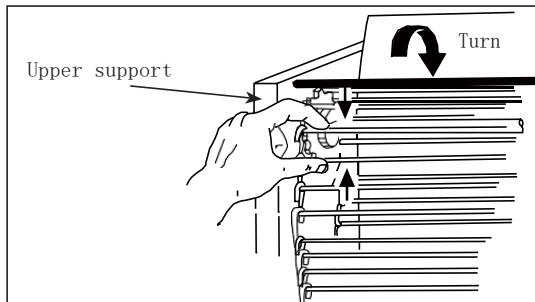

Figure6
- 2、After removing the chain link, the hook ends downward, after confirming that the chain link is in the sprocket groove, reconnect the two ends of the chain link. (Figure6) .